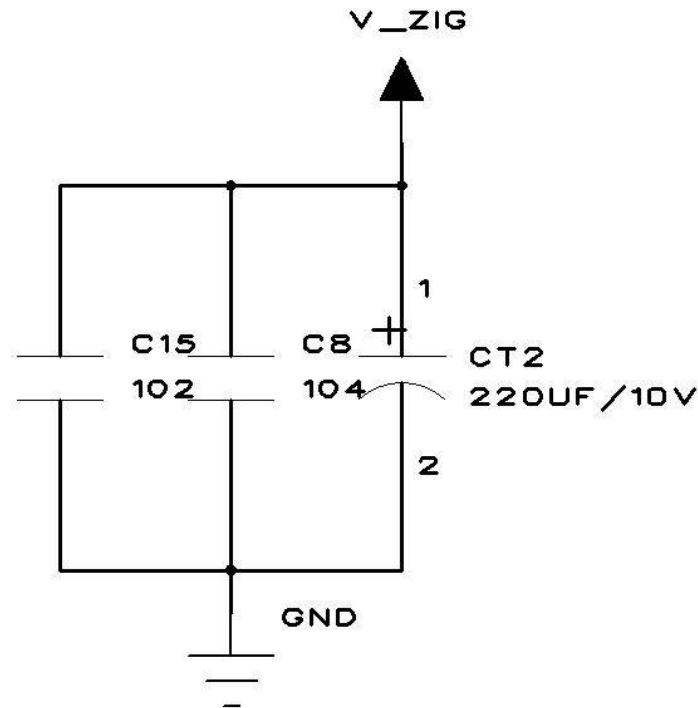

Figure 5-2 Reference circuit for the V\_ZIG input
- 1, The host controller support RS232 (such as: PC). The figure 5-2 is the recommend UART convert to RS232 circuit.